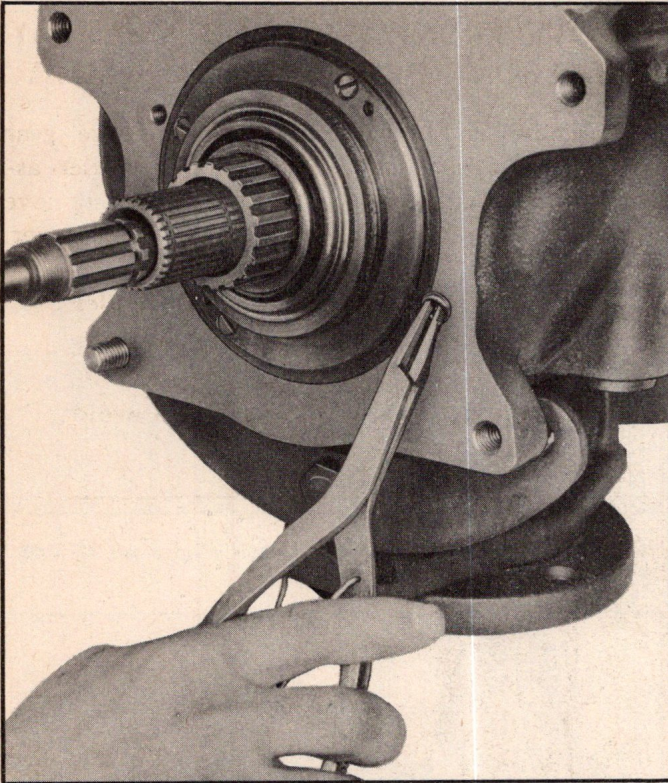

Fig. 125—Removing Front Pump Locating Washer
3. Remove front pump locating washer from its counterbore using snap ring pliers (Fig. 125).